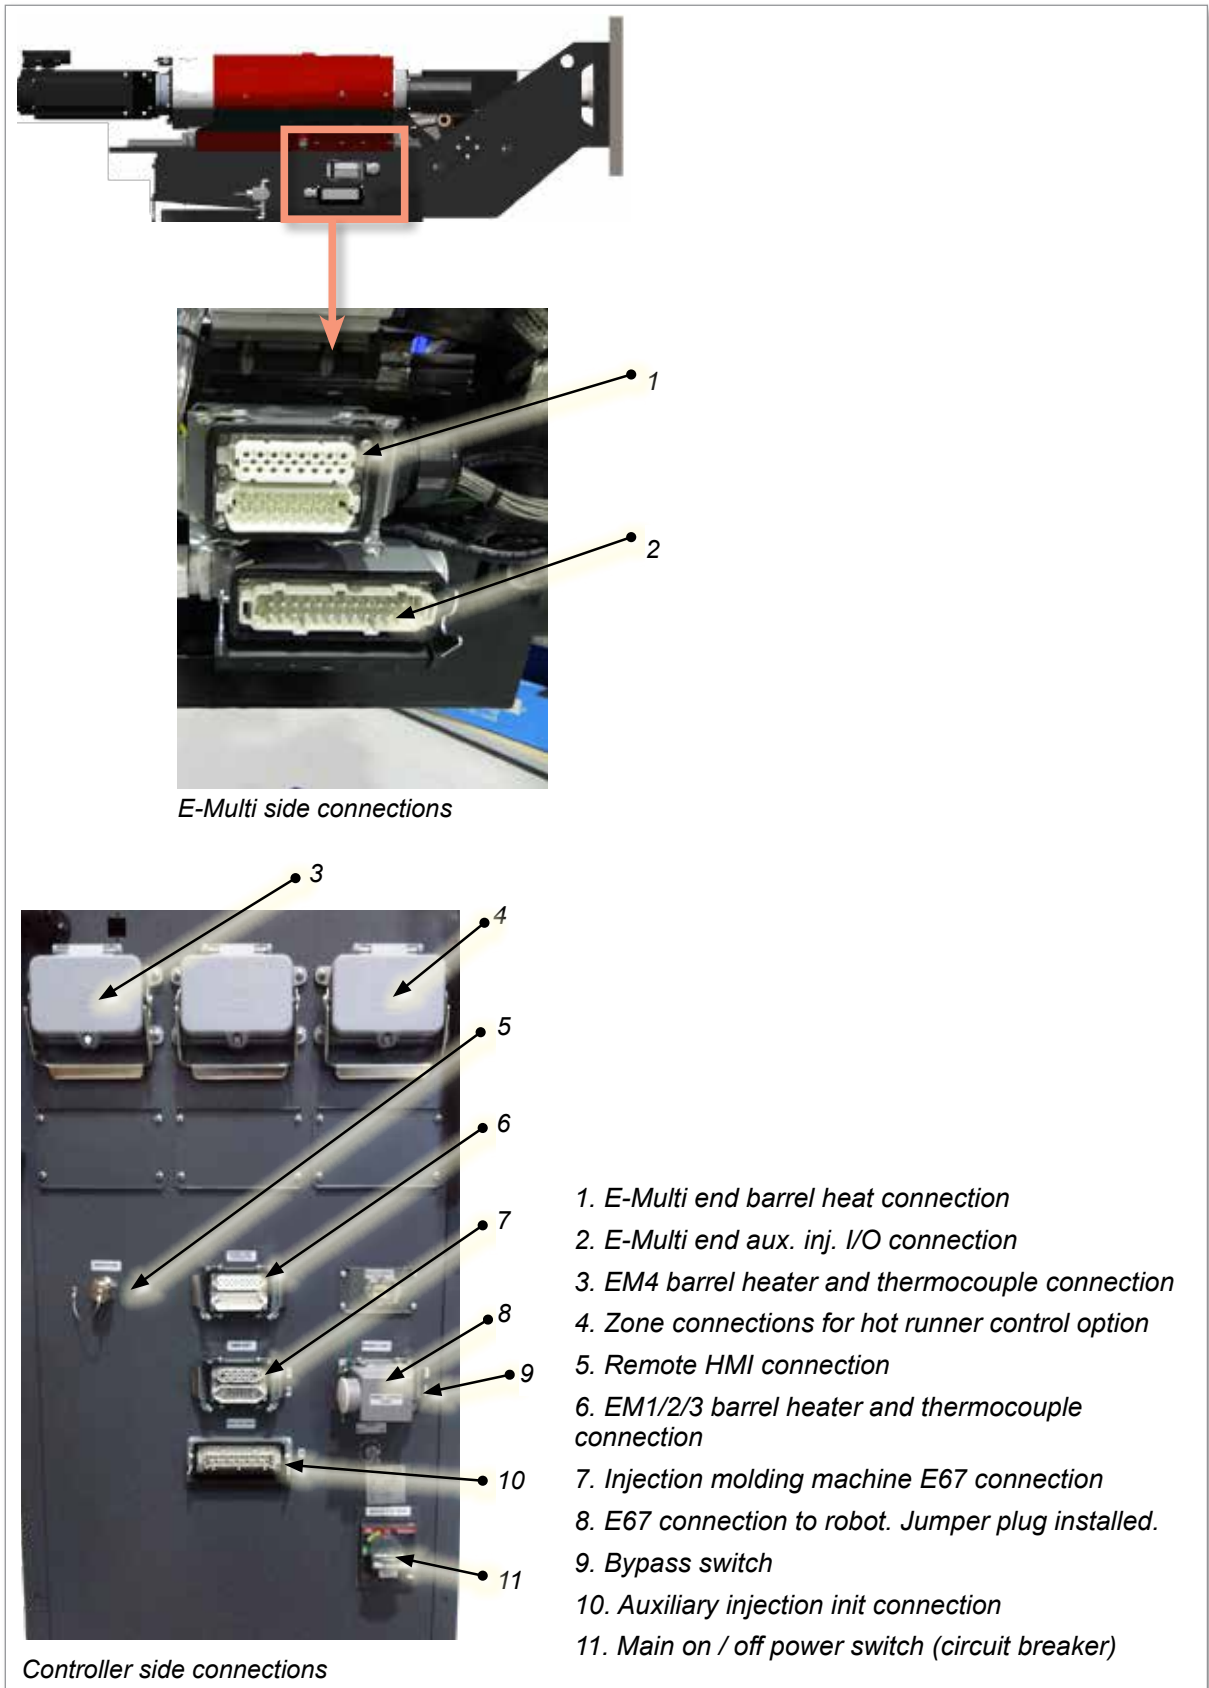

Figure 7-4 E-Multi connection locations
- Connect the "CONTROLLER END" of the cables to the "BARREL HEAT CONNECTOR" and "AUX INJ. UNIT" connectors on the controller. See Figure 7-4 on page 7-3.
If no robot is used, connect the robot jumper plug to the “ROBOT E67” connector on the controller (see Figure 7-4 on page 7-3).
E-Multi units are available with optional handheld Human Machine Interface (HMI) units to allow control of the E-Multi injection unit when access to the controller is inconvenient. The handheld HMI connects to the “HANDHELD HMI” connector on the controller (see Figure 7-4 on page 7-3).